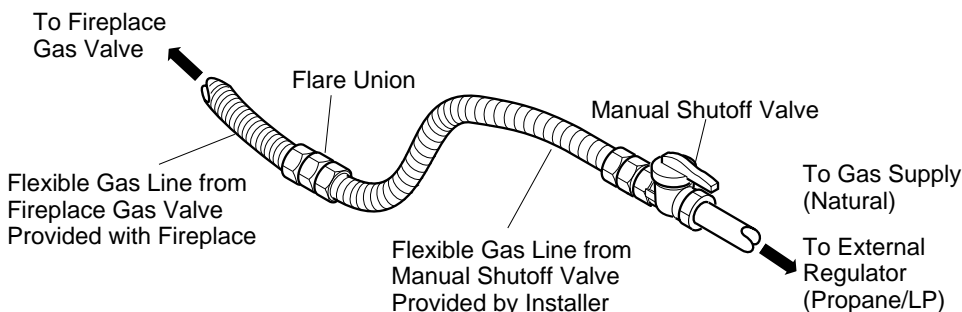

Figure 30 - Attaching Flexible Gas Lines Together
3. Attach a 45° flare union gas connector to flexible gas line from gas supply (see Figure 30). Connect flare union to flexible gas line attached to gas regulator of fireplace (see Figure 30).